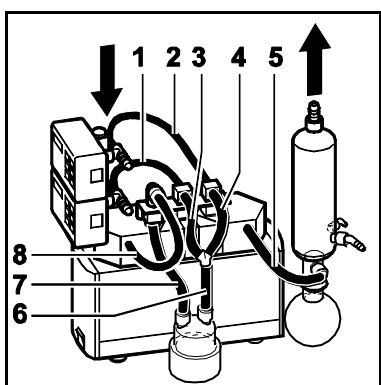

Fig. 18: Tubing system SCC
8	Tubes (see fig. 18) <ul style="list-style-type: none"> <li>▪ Resistant to the medium employed</li> <li>▪ Inside diameter 10 mm</li> <li>▪ Length: (1) approx. 320 mm, (2) approx. 260 mm, (3,4) approx. 120 mm, (5) approx. 220 mm, (6) approx. 135 mm, (7) approx. 175 mm, (8) approx. 350 mm</li> </ul>
5. Lay hoses for system (see fig. 18).